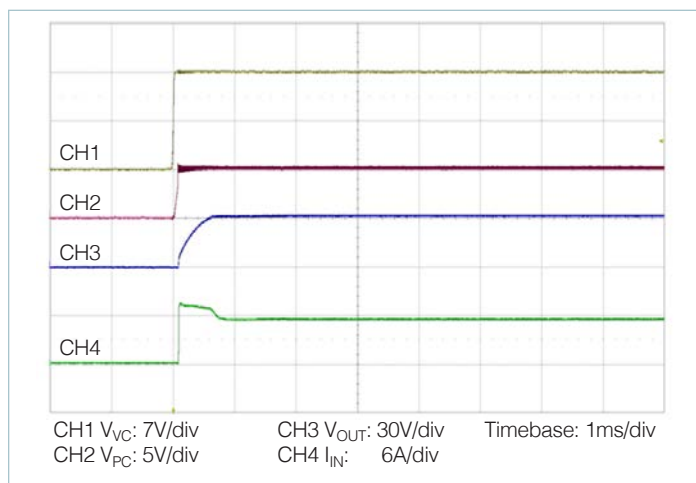

Figure 14 — Start up from application of V_C ; V_{IN} pre-applied $C_{OUT} = 100\mu\text{F}$
- **Stand-alone operation (VC applied after V_{IN}):** In this case the VTM output will begin to rise upon the application of the VC voltage (See Figure 14). The Adaptive Soft-Start Circuit may vary the output rate of rise in order to limit the inrush current to its maximum level. When starting into high capacitance or a short, the output current will be limited for a maximum of 1200μs. After this period, the Adaptive Soft-Start Circuit will time out and the VTM module may shut down. No restart will be attempted until VC is re-applied or PC is toggled. The maximum output capacitance is limited to 100μF in this mode of operation to ensure a successful start.